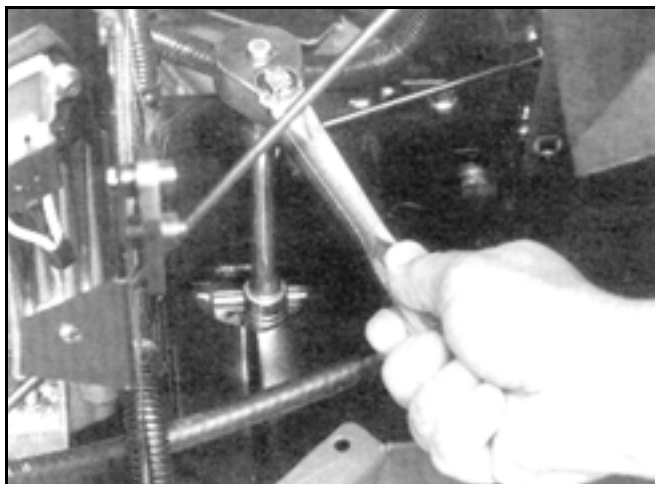

Figure 36
1. Remove the battery and battery bracket from the tractor. Disconnect both steering tie rods from the sector gear. Using the access hole in the mounting bracket, remove the lock nut and carriage bolt holding the sector in place (Figure 36).